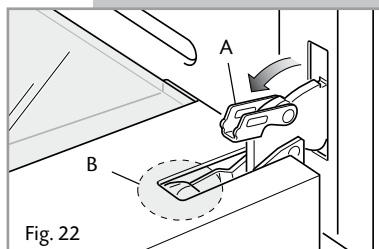
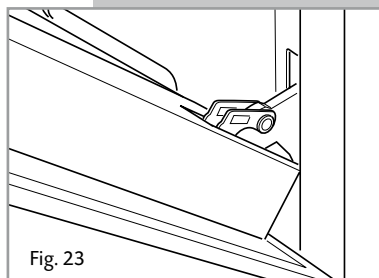

Fig. 22
Fig. 23
- Fully open the lever **A** on the left and right hinges (Fig 22).
- Gently close the door (Fig. 23) until the left and right hinges are hooked to part **B** of the door (Fig. 22).